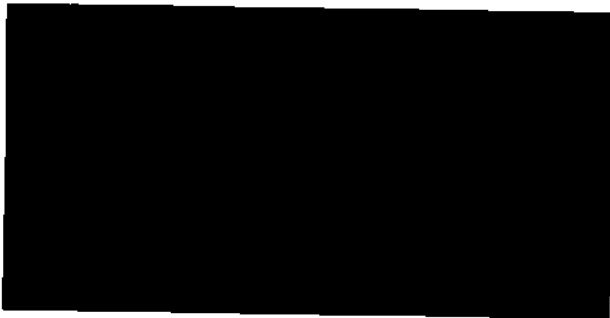

Figure 27. Configure Accessory Ports
1. Select the CONFIGURE ACCESSORY PORTS icon on the SYSTEM CONFIGURATION MENU screen to open the CONFIGURE ACCESSORY PORTS MENU screen (Figure 27). TOP PORT = will blink. The default setting is FRAME CAPTURE.